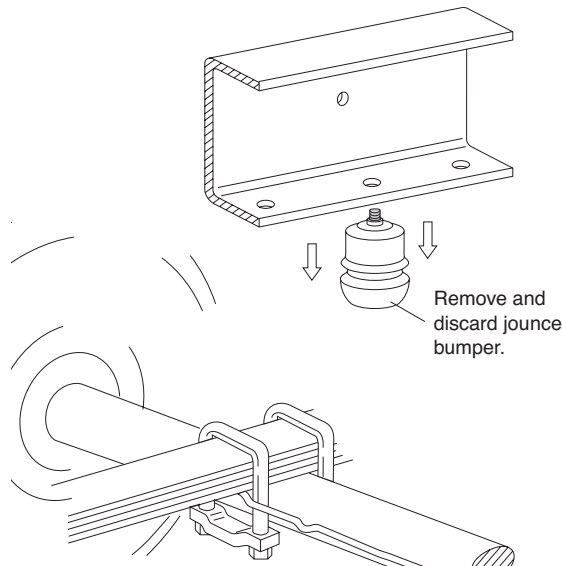

fig. 4
1. Remove the jounce bumper (Figure 4). The bellows will mount in place of the jounce bumper.